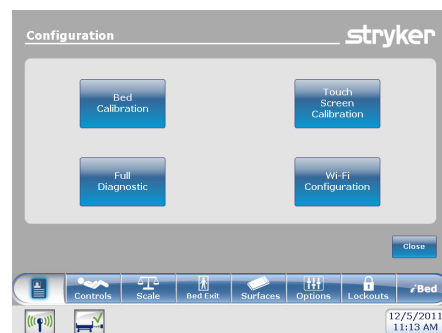

Figure 2: Configuration Screen
6. Release the Main Menu button and you will be taken into the Configuration Screen shown in Figure 2.